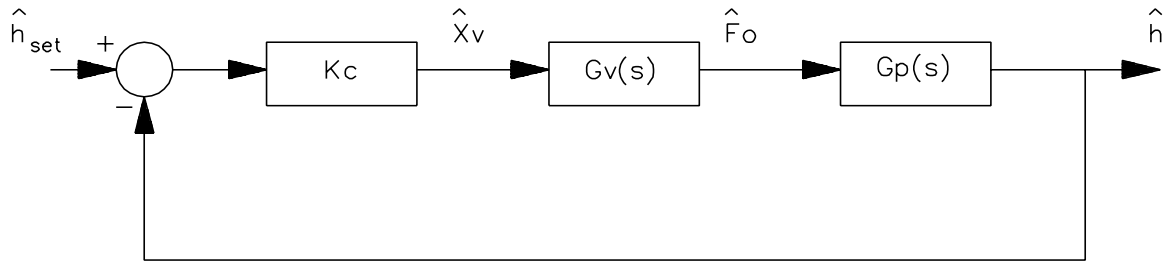

Figure 3: Direct Proportional Control for Reboiler.
- (a) (15 pts) Using a simple proportional control as shown in Figure 3, show that the ultimate gain is 1.437 and using the gain prescribed by Ziegler-Nichols, calculate the percent offset for a step change in setpoint, i.e. $\hat{h}_{set} = \alpha/s$.